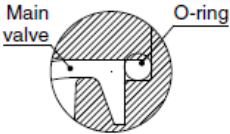

Fig.5 - O-ring position
- Mount the O-ring into the groove in the body. See Fig.5.